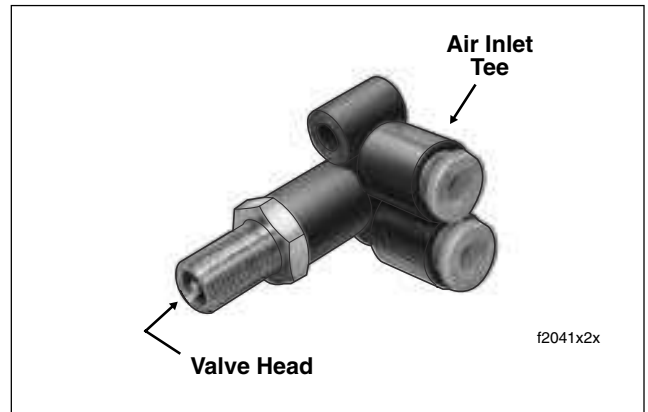

Figure 2-93. Air Valve Assembly
- h. Push on valve head to free air valve assembly from mounting bracket. See Figure 2-93.